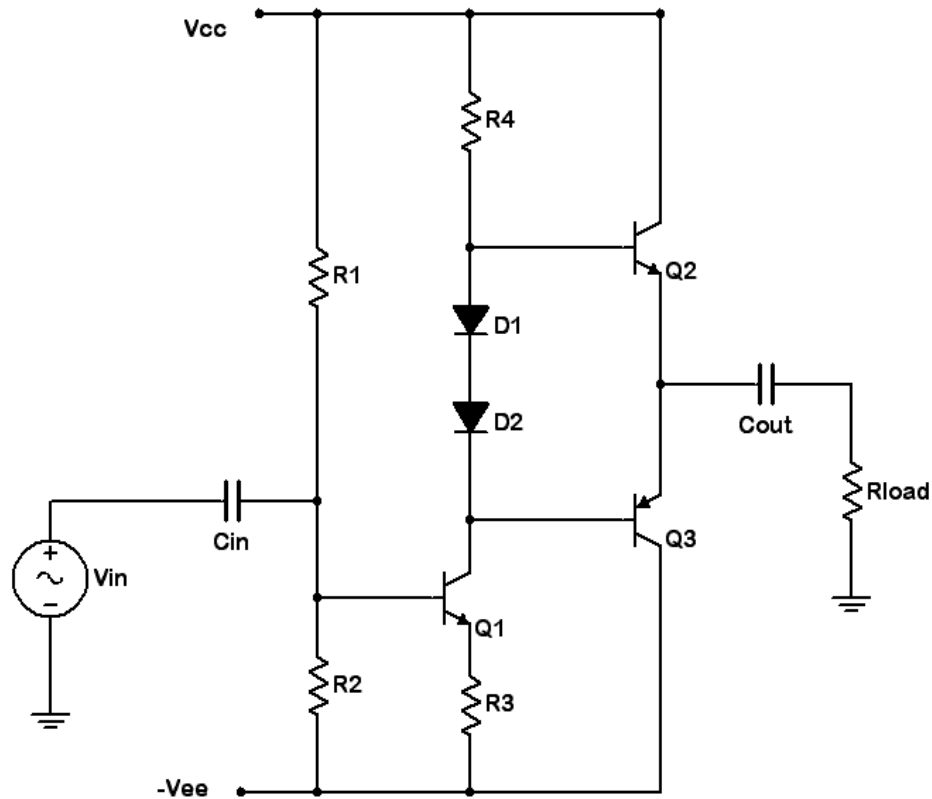

Figure 1
1. Consider the circuit of Figure 1 using $V_{cc} = 6$ volts, $V_{ee} = -6$ volts, $R_1 = 6.8$ k Ω , $R_4 = 1$ k Ω , $R_3 = 100$ Ω , $R_{load} = 100$ Ω , $C_{in} = 1$ μ F and $C_{out} = 100$ μ F. R_2 is an adjustable resistance (pot or decade box). For proper bias, the emitters of the output transistors should be at 0 volts DC. For this to be true there must be a voltage of $V_{cc} - V_{be}$, or approximately 5.3 volts, across R_4 . Ignoring base currents, this establishes the I_{CQ} of transistor 1 which in turn creates a potential drop across R_3 . From this the voltage across R_2 may be determined. Knowing the value of R_1 and the total supply presented, Ohm's law or the voltage divider rule may be used to compute the required setting for R_2 . Compute the required value for R_2 and record it in Table 1.
4. Build the circuit of Figure 1 using $V_{CC} = 6$ volts, $V_{EE} = -6$ volts, $R_1 = 6.8\text{ k}\Omega$, $R_4 = 1\text{ k}\Omega$, $R_3 = 100\Omega$, $R_{load} = 100\Omega$, $C_{in} = 1\text{ }\mu\text{F}$ and $C_{out} = 100\text{ }\mu\text{F}$. Set the pot or decade box (R_2) to the value calculated in Table 1. Disconnect the signal source and inspect the DC voltage at the load. Adjust R_2 until this voltage goes to 0 volts. Record the resulting value of R_2 in Table 1.